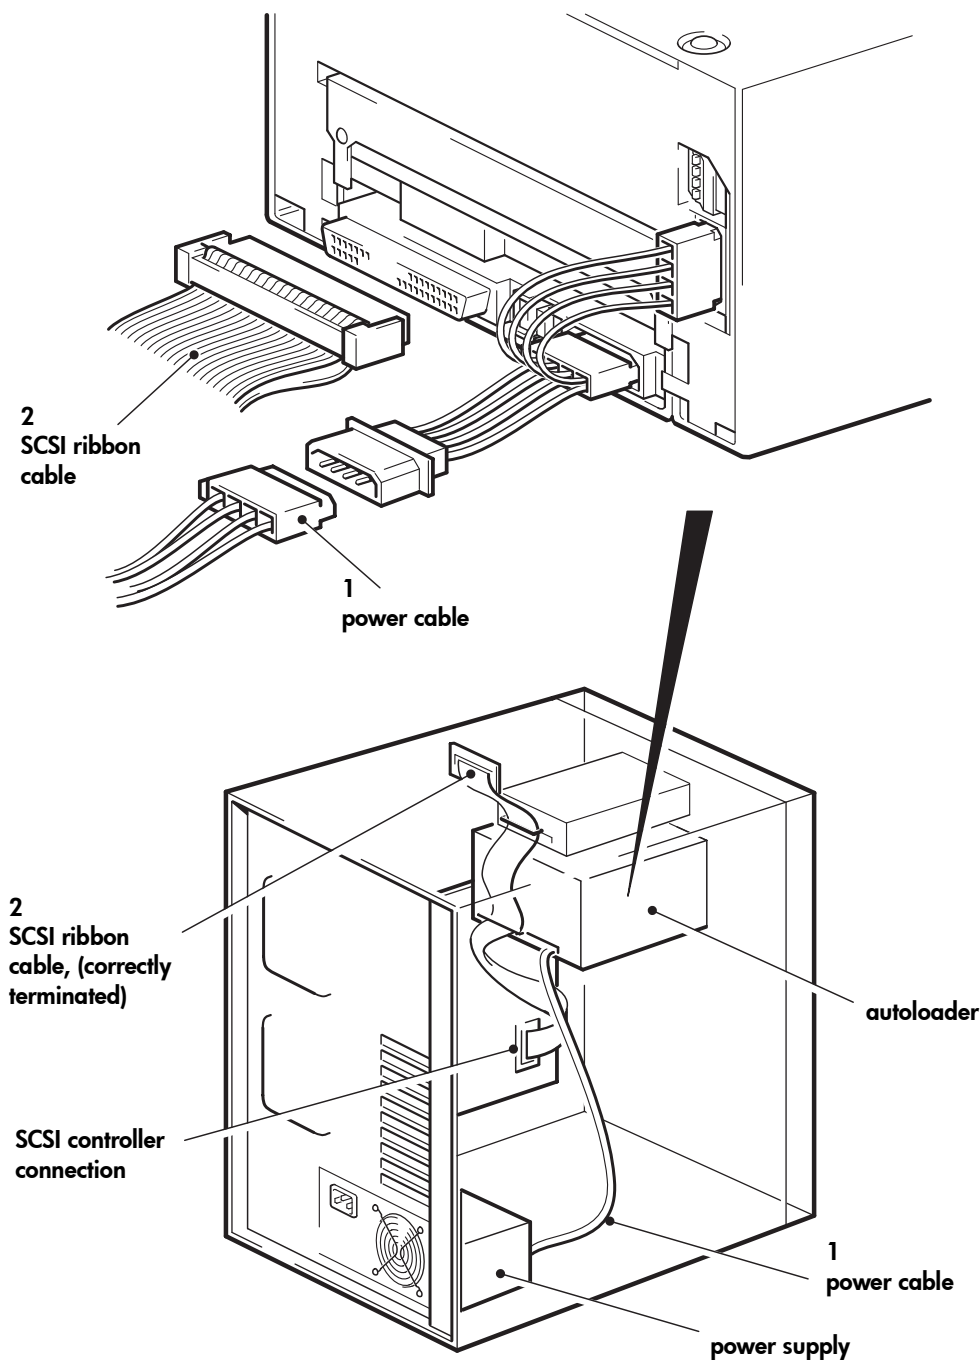

Figure 9: attaching power and SCSI cables
- 1 Attach a spare power cable from the server's internal power supply to the male end of the Y-cable, as shown in figure 9, item 1.
- 2 Attach a spare connector on the server or HBA's SCSI ribbon cable to the SCSI connector of the drive, as shown in figure 9, item 2.
Therefore, assuming the HBA is the first device on the bus, you should check that the second terminator is placed after the last device, as shown in figure 9, item 2.